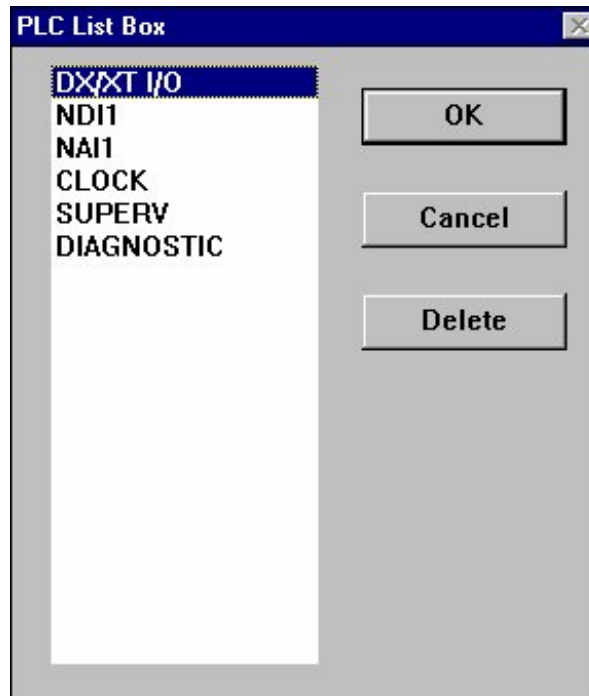
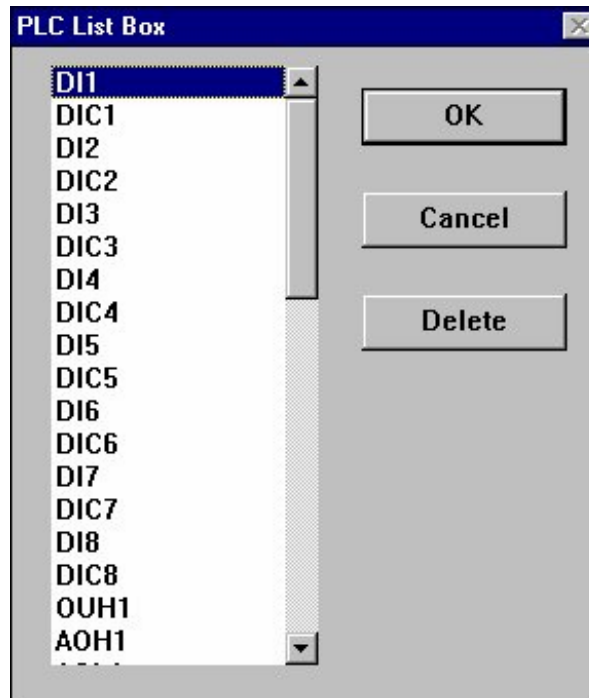

Figure 5-6: PLC List Box for Configured Modules
Figure 5-7: PLC List Box Showing All Logic Variables Under DX/XT I/O
1. Click on the center of the first PLC instruction. The intermediate PLC List Box showing all configured modules appears (Figure 5-6).
2. Select a module from the intermediate menu and click OK. For example, if you select DX/XT I/O from the PLC List Box (Figure 5-6), the PLC List dialog box for DX/XT I/O appears (Figure 5-7).